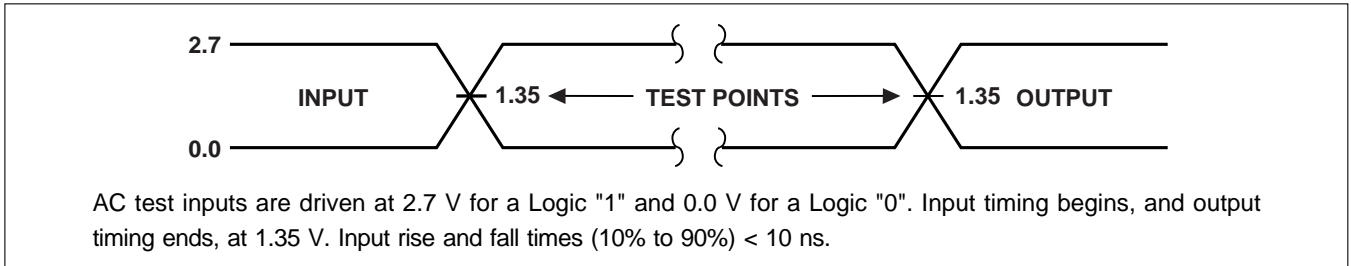
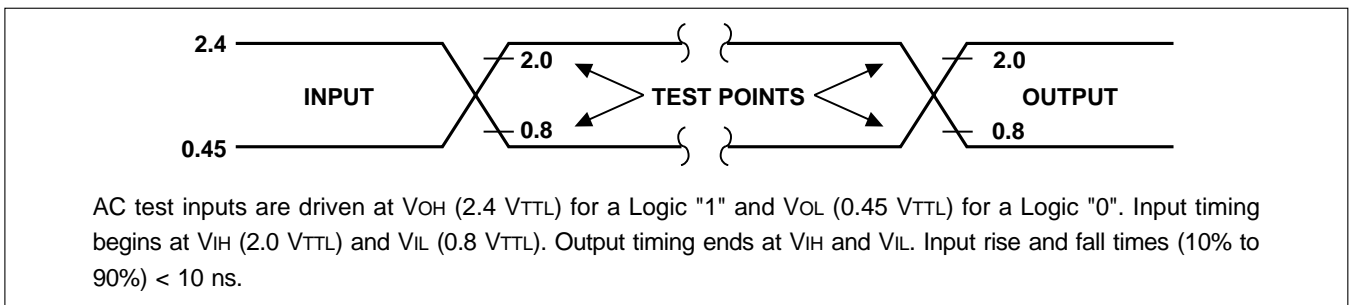

Fig. 9 Transient Input/Output Reference Waveform for Vcc = 2.7 to 3.6 V
Fig. 11 Transient Input/Output Reference Waveform for Vcc = 5.0±0.5 V (Standard Testing Configuration)
1. See AC Input/Output Reference Waveform (Fig. 9 through Fig. 11) for maximum allowable input slew rate.